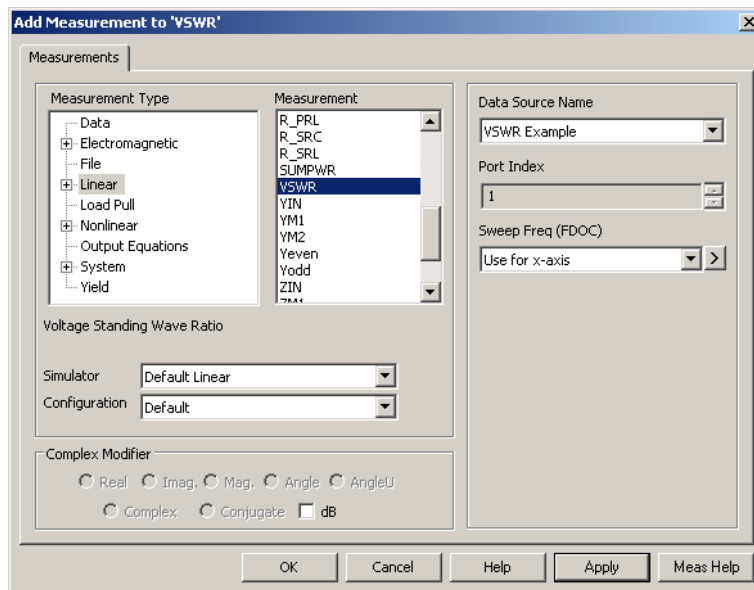

Figure 5.6: Chart 3 : Add Measurement Dialogue Box, VSWR (Rectangular Plot)
- Change your measurement dialogue box to match figure 5.6.